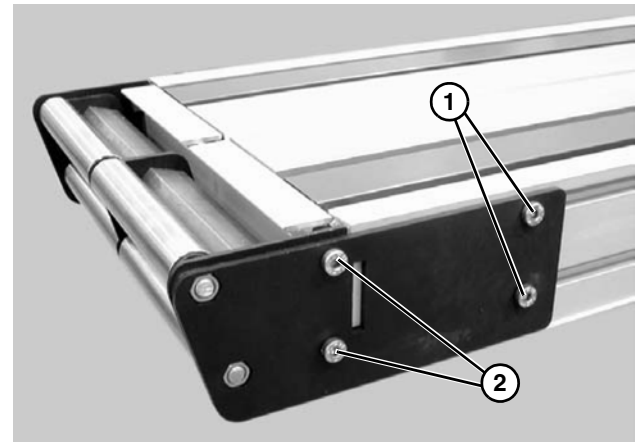

Figure 47
- On one side of conveyor, remove the two (2) back fastening screws (**Figure 47, item 1**), and the two (2) front fastening screws (**Figure 47, item 2**).